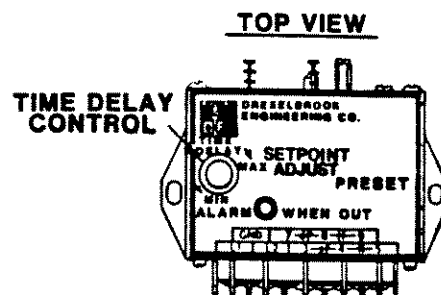

Fig.4-1
The time delay adjustment is located on top of the electronic unit chassis. See Figure 4-1. The standard time delay is adjustable from 0-90 seconds.
The purpose of the time delay is to allow the pump to prime itself or ignore voids in the process stream for a preset time period. Turning the adjustment clockwise (CW) will increase the time delay, and turning it counterclockwise (CCW) will decrease the time delay. See Figure 4-1.